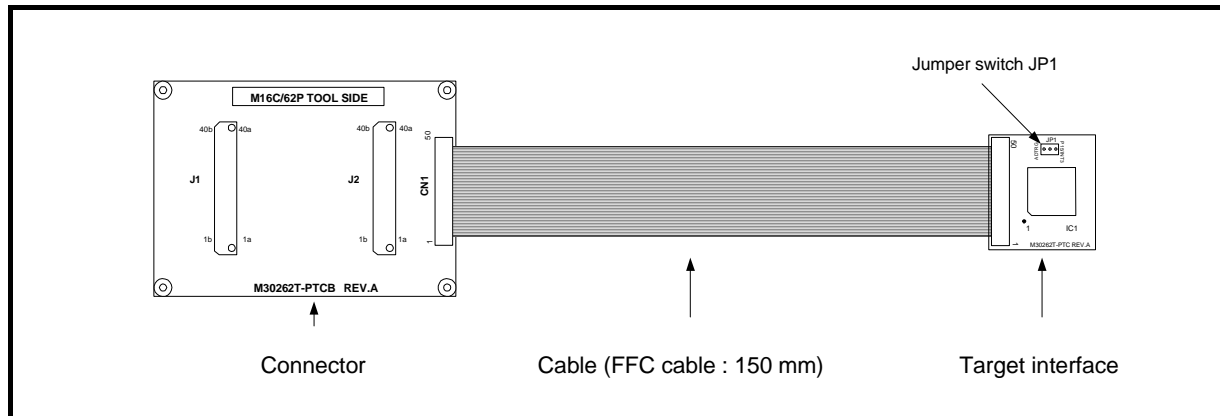

Figure 3 Hardware configuration of the M30262T-PTC
5. Hardware Configuration of the M30262T-PTC (See Figure 3)